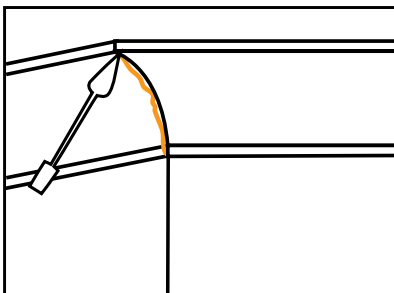

FIGURE 71 Mitres
- > Finish mitres using a small cornice tool [Figure 71]